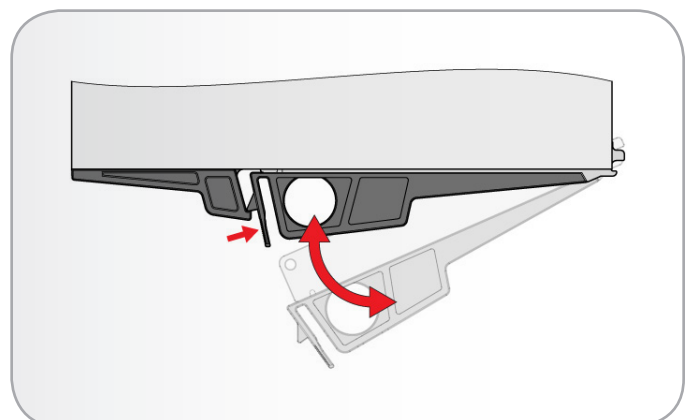

Fig. 50 - Securing the Module Latch Handle
2. Secure the module by closing the latch. A click should be heard as the latch locks into position (Fig. 50).